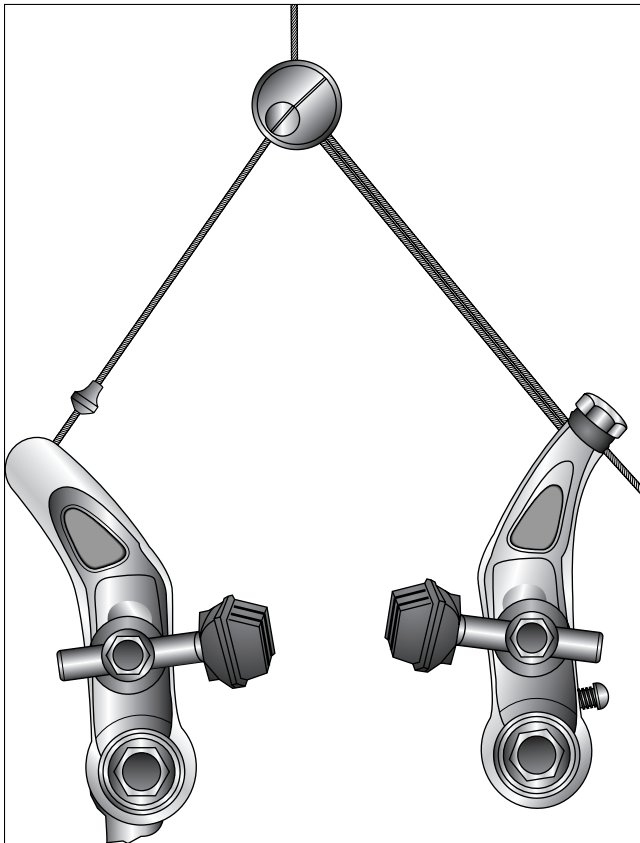

Figure 8-1:
- **Cantilever brakes:** Cantilever brakes (see Figure 8-1) have short, L-shaped brake arms that bolt to the frame and are connected by a straddle cable, which looks like an upside-down Y. They're mounted on two pivots, one on each side of the wheel. The pivots (bosses) are set close to the wheel, which increases their mechanical advantage. Cantilever brakes have very good braking power. They're commonly found on road bikes, mountain bikes, and touring bikes.